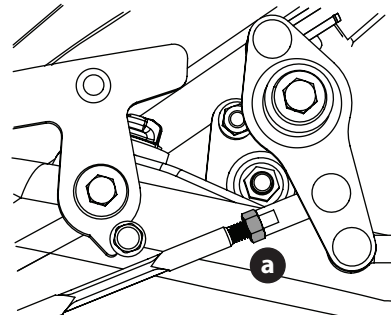

Figure 28
4. Loosen the jam nut (a) and zero out the transmission (Figure 28). Perform on both sides of the mower.